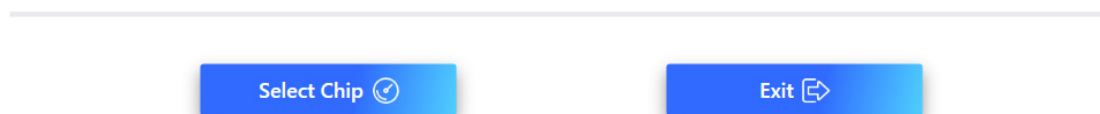

Figure 3: Select Chip
2. Start up the GUI software, then click “Select Chip” (see Figure 3).